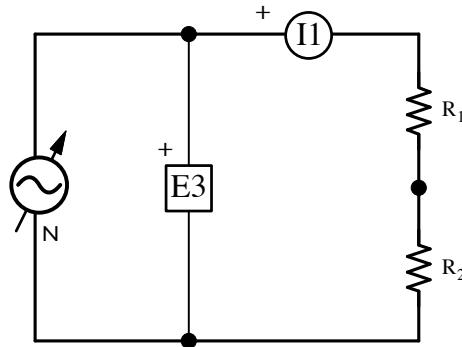

Figure 1.5: AC sine wave circuit
- 5. Set up the circuit shown in Figure 1.5. Note the symbol used to indicate a *variable ac source* in this circuit. Set the resistances of R_1 and R_2 to **300** each. Note that E3 is placed across the power supply and measures the supply voltage, and that I1 is placed in series with the load, and measures the load current.